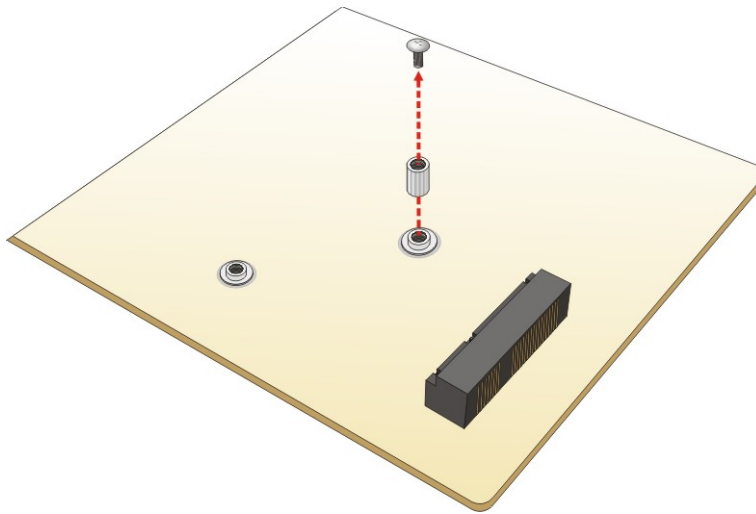

Figure 3-12: Removing the Retention Screw and Standoff
- Step 3:** To avoid interference of the board circuit, remove the retention screw and standoff for a half-size PCIe Mini card as shown in **Figure 3-12**.